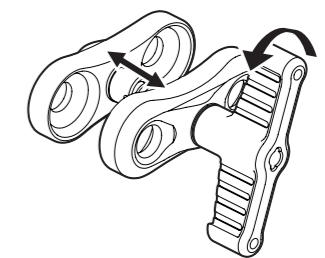

fig.1
1. Hold the Ball Clamp II and turn handle counter-clockwise to allow enough space between the clamps to insert SA8 balls (fig 1)